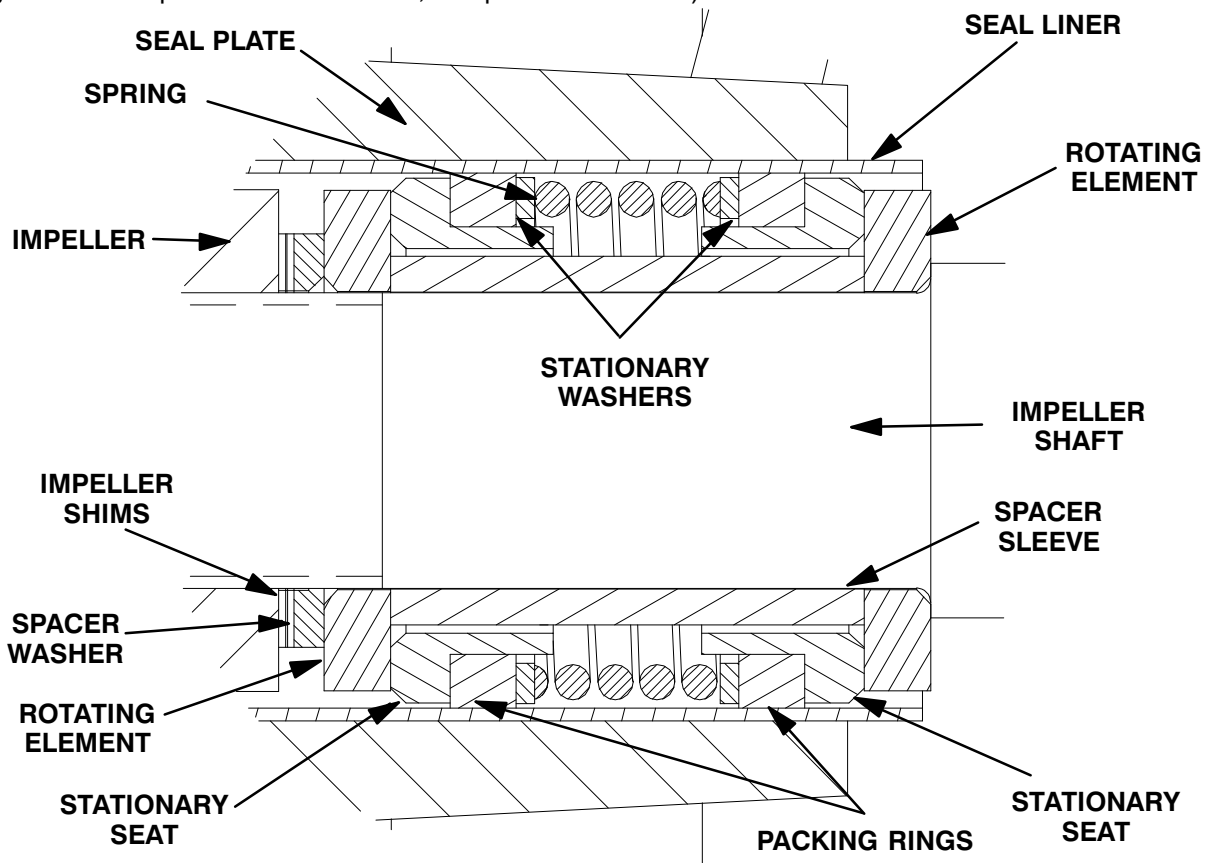

Figure 3. Seal Assembly
To ease installation of the seal, lubricate the seal liner (65) with water or a very **small** amount of oil, and apply a drop of light lubricating oil on the finished faces. Assemble the seal as follows, (see Figure 3).